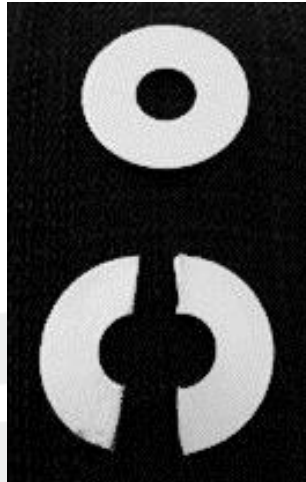

Figure 1
2. Cut 3 1.6 mm thick aluminum washers in half to make shims (Figure 1).